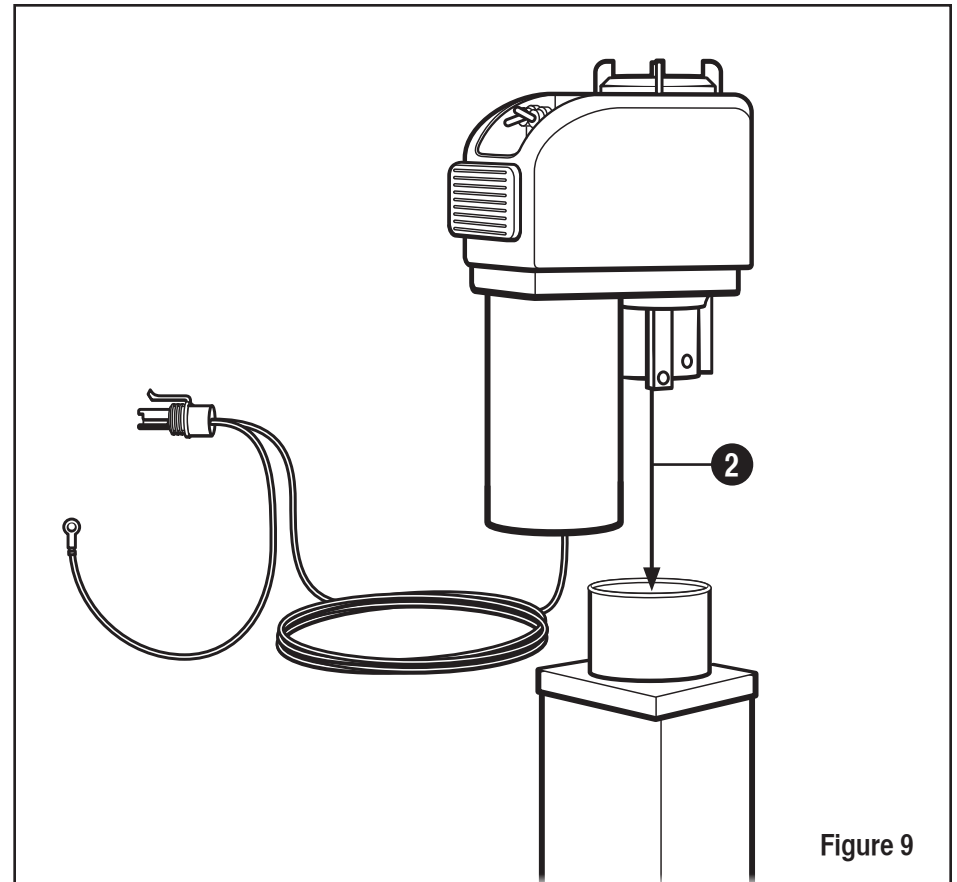

Figure 9
2. Set the Powerhead on the Lift Assembly (**Figure 9**).